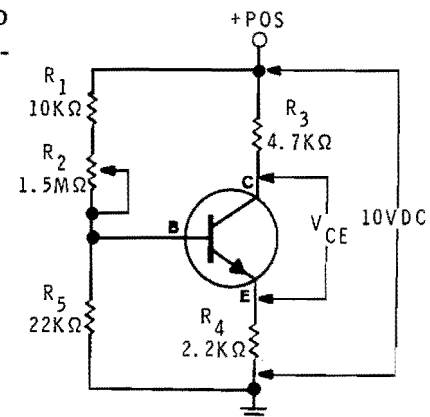

Figure 1-33
8. Turn off your Trainer and rewire your circuit so that it appears as shown in Figure 1-33. Notice that the 470 kilohm resistor ( $R_1$ ) must be replaced with a 10 kilohm resistor and a 22 kilohm resistor ( $R_5$ ) must be connected between the transistor's base and ground. Your experimental circuit now uses emitter feedback in conjunction with voltage-divider bias.